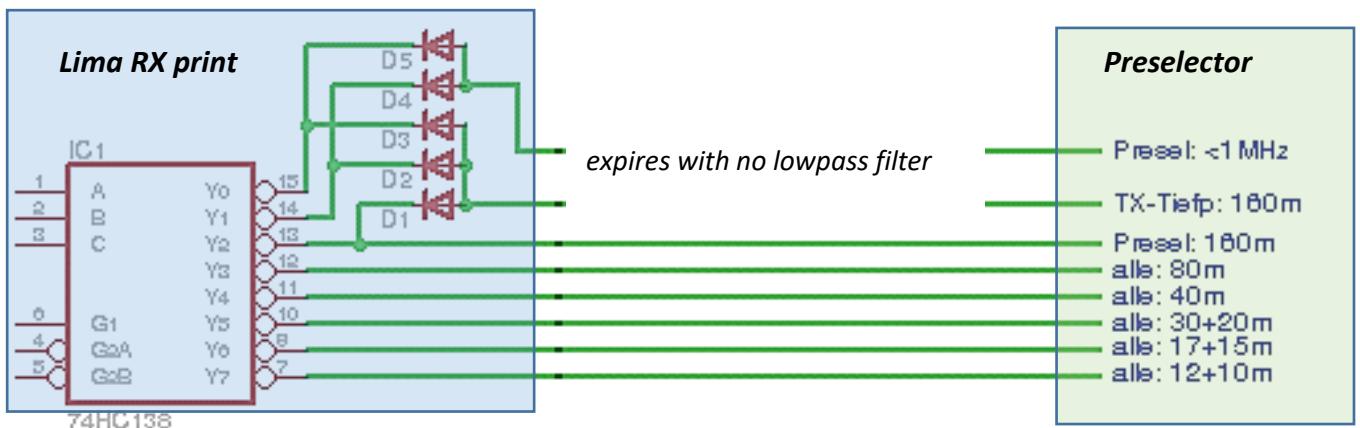

Fig. 38, Optional circuit.
This requires 5 pieces of 1N4148 diodes, fig.38.
5.18. Wiring for the U02-SDR Preselector, Fig. 38.